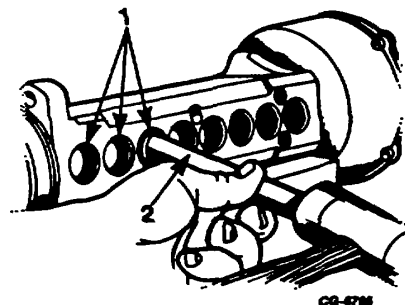

Figure 8. Installing Base Plugs
21. Install base plugs in bottom of pump housing unit 5/8" or 11/16" socket or similar size wood dowel (Figure 8). Seat plugs so they are just past lower edge of chamfer in pump housing. To prevent leakage, install new plugs and apply thin coat of sealant to plug circumference.